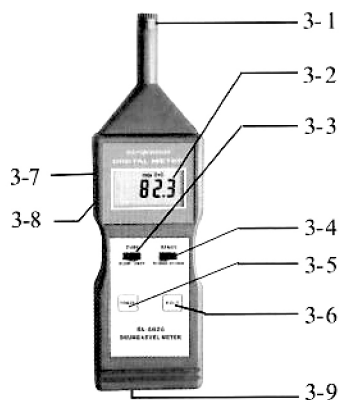

Fig.1
- (1) Click the power key (Fig.1, 3-5) to turn on the power supply.
- (2) Set the Fast-slow switch (Fig.1, 3-3) to the right position.
- (3) The reading is the peak one if the symbol 'max' appears on the Display. The reading is an instant value if it does not show up. The appearance of symbol 'max' is controlled by depressing the HOLD key (Fig.1, 3-6) in the process of measurement.
- (1) The standard sound source is ND9 or ND6 sound level calibrator (not included)
- (2) When using the ND6 piston generator, which is a frequency of 250 Hz. Adjust the calibration resistance (Fig.1, 3-7)
- (3) When using the ND9 sound level calibrator, which is a frequency of 1000Hz, adjust the calibration resistance(Fig.1, 3-8) to display 93.8.
- (1) When it is necessary to replace the battery, i.e. battery voltage less than approx. 5v, 'E-3' Will appear on the Display.
- (2) Slide the Battery Cover (Fig. 1, 3-9) away from the instrument and remove batteries.
- (3) Install 4x1.5v AA/UM-3 batteries correctly into the case.
- (4) If the instrument is not to be used for any extended period remove batteries.